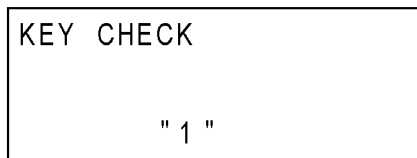

Fig. 25
- (1) Press the "RET" key. The display shifts to one as shown in Fig.25.